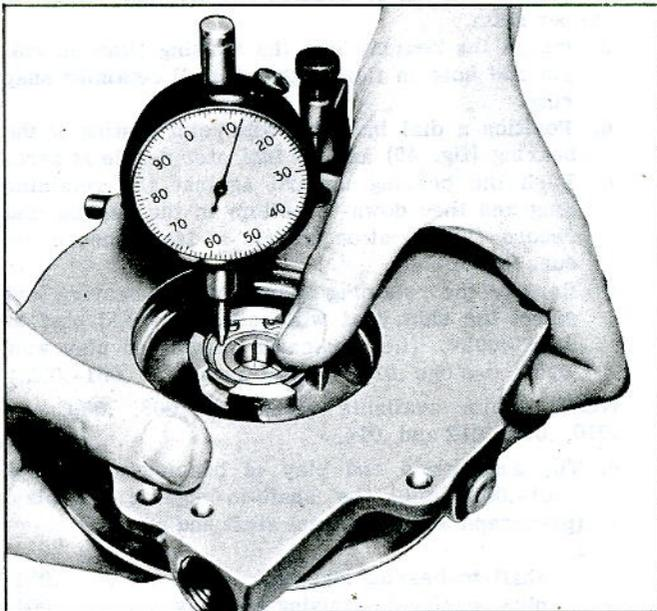

Fig. 46—Gauging Bearing-to-Housing End Play
- b. Position a dial indicator with point resting on the bearing (fig. 46) and set indicator needle at zero.